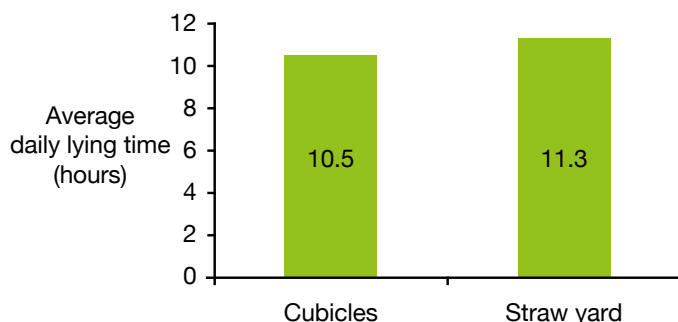

Figure 18. Lying times of cows in cubicles vs. straw yards
- Cows in straw yards had some of the longest lying times – they spent an additional ~1 hour lying down vs. cows in cubicles (Figure 18)